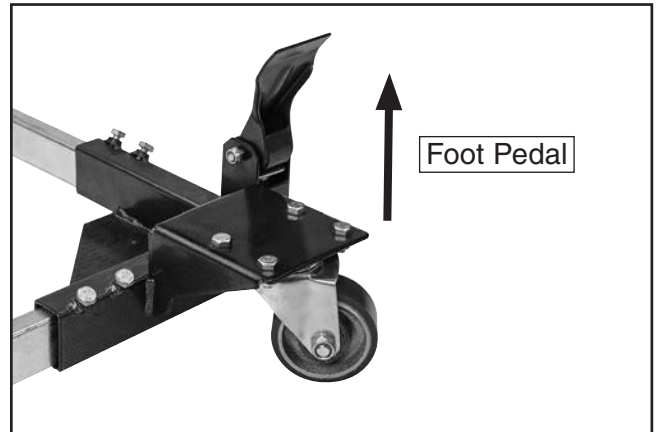

Figure 21. Foot pedal raised.
4. Raise foot pedals up to lift rubber feet and move machine (see **Figure 21**).